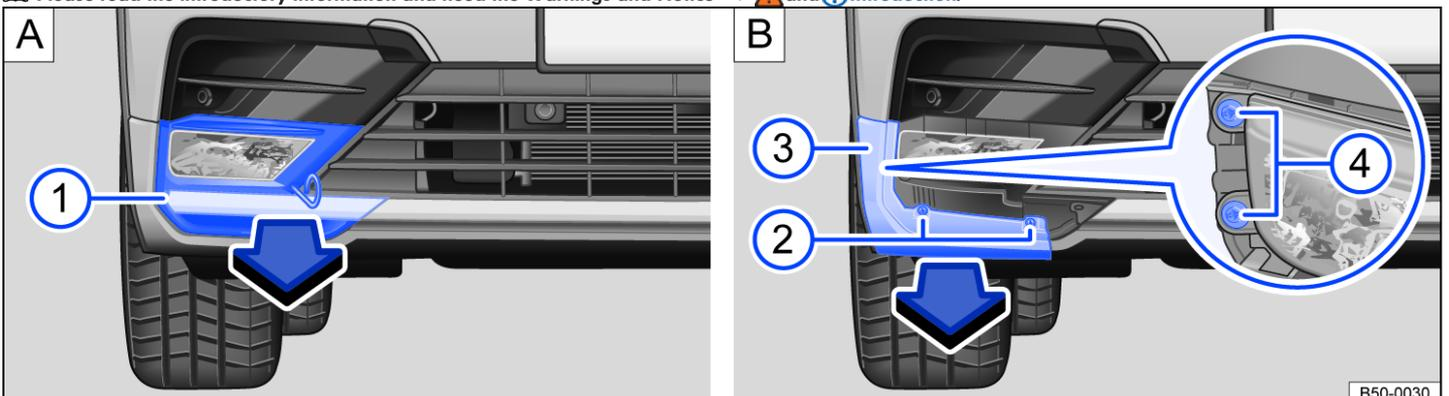

Fig. 172 In the right side of the R-Line front bumper: removing the fog lights.
3. Attach the support wire in the opening on the cover below the fog lights *fig. 172* **A**. Pull the cover forward in the direction of the arrow *fig. 172* **1** **A**.